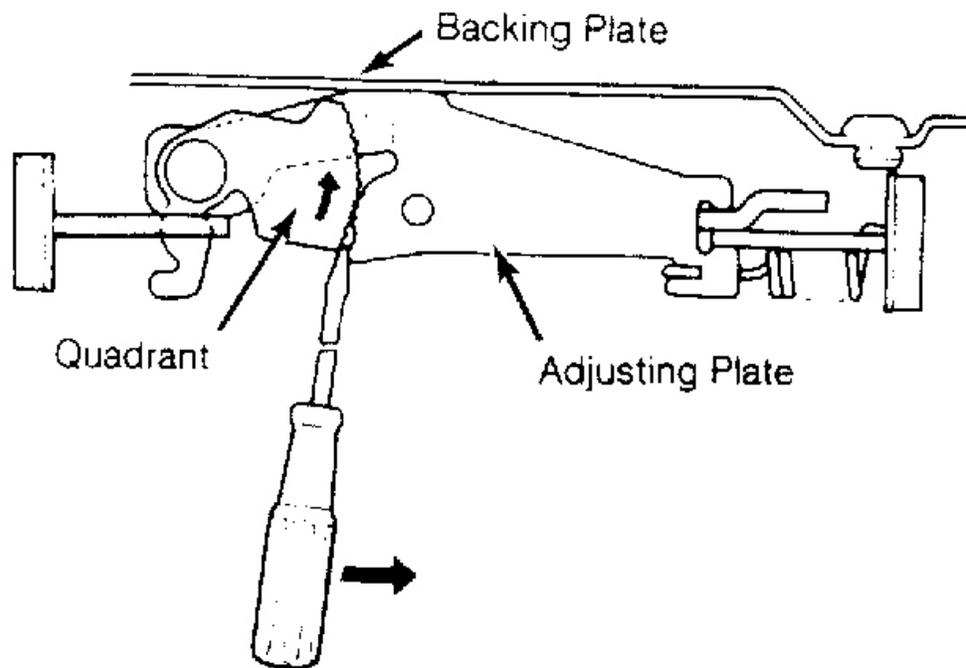
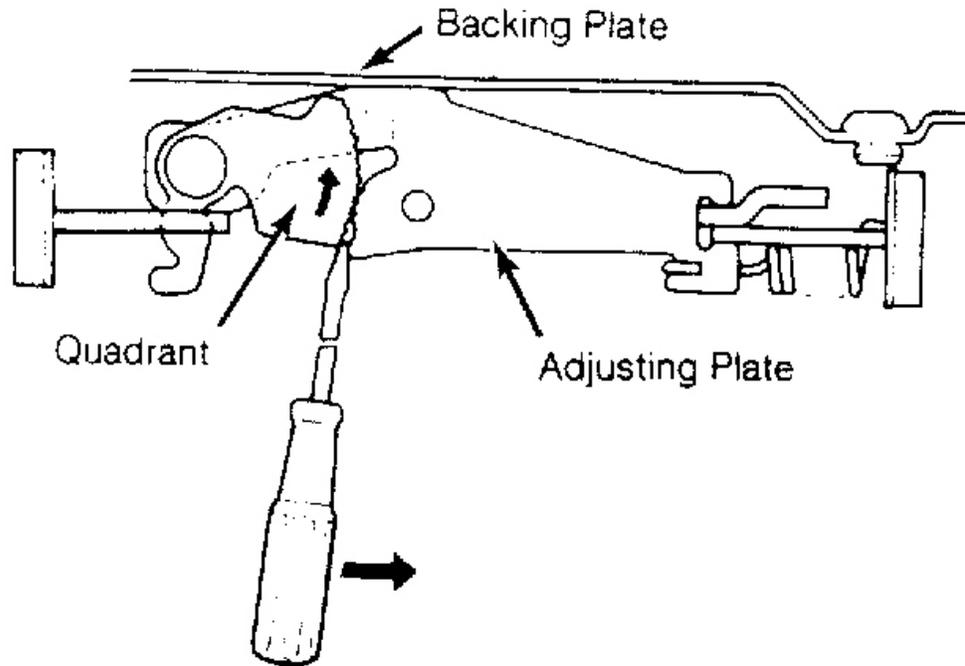

Fig. 2: Moving Quadrant on Rear Brake Adj. (MX-6 & 626)
Fig. 3: Moving Quadrant on Rear Brake Adj. (Typical Protege & 323)
1. Raise and support rear of vehicle. Remove wheel. Release parking brake. Remove lock nut from axle shaft. Remove brake drum. Insert screwdriver between adjusting plate and quadrant. Twist screwdriver to disengage teeth. See Fig. 2 or Fig. 3 .